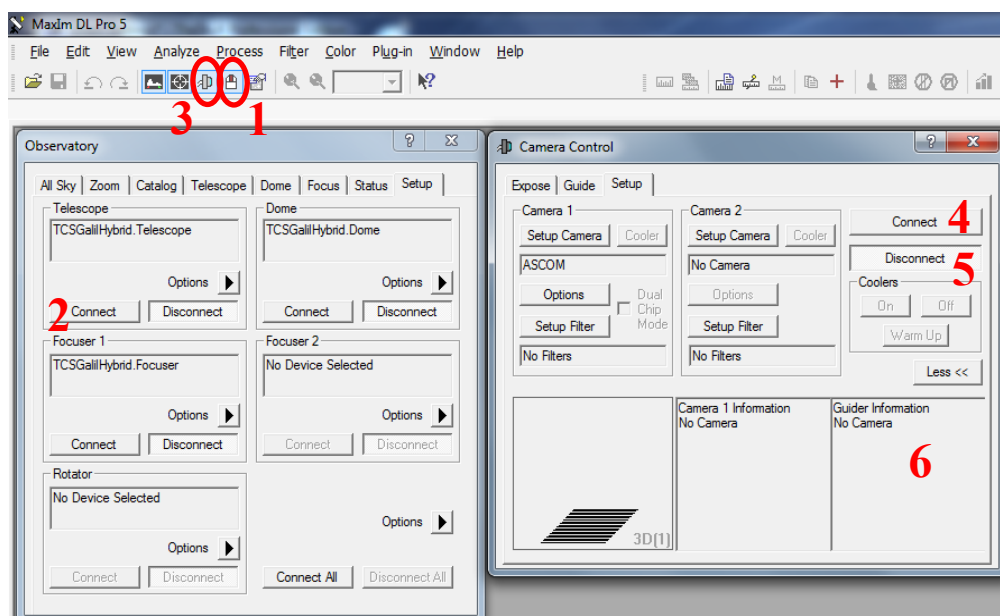

Fig. 2.13. Connection between the telescope and the A/G using the MaxIm DL software.
10. Click on the “Toggle Observatory” button (Fig. 2.13 No 1). The “Observatory” window opens by default on the “Setup” menu. Press the “Connect” button (No 2). Close the window.
1. If A/G was previously connected, then in "MaxIm DL" software (Fig. 2.13):